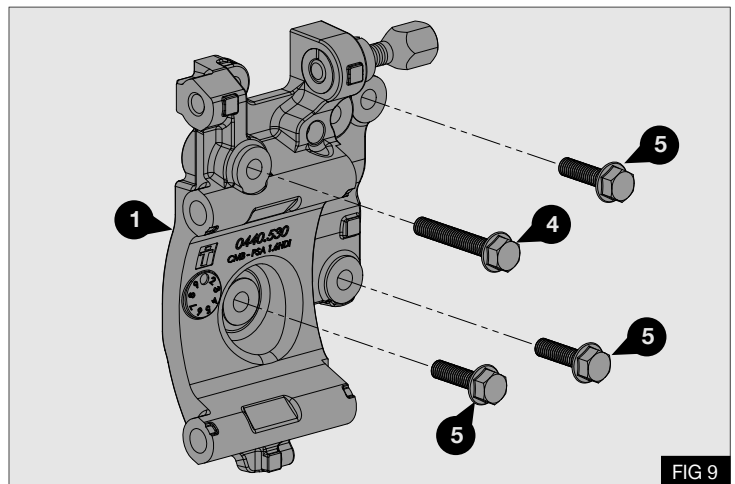

FIG 9
- Fit the bracket  to the 2 x dowels in the engine block and secure with bolts  and  – Fig 9